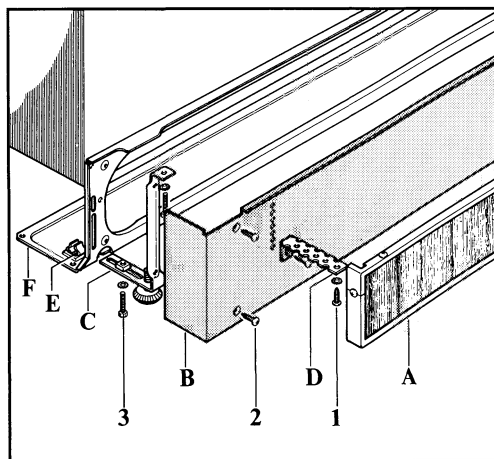

fig. 27
Adjusting the Base in Depth (fig. 27)
Refit the lower panel and secure it with the respective screws (1) to the two brackets (D) after adjusting them in height (fig. 27).